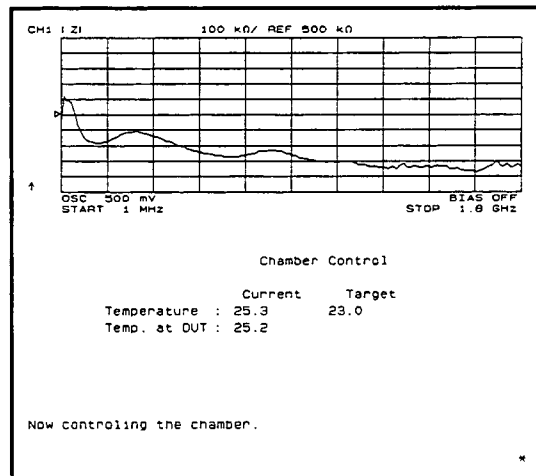

Figure 1-8. Temperature/Humidity Monitor
- The graticule is displayed the above half-screen, and the temperature/humidity are displayed the under half-screen under as shown in Figure 1-8.